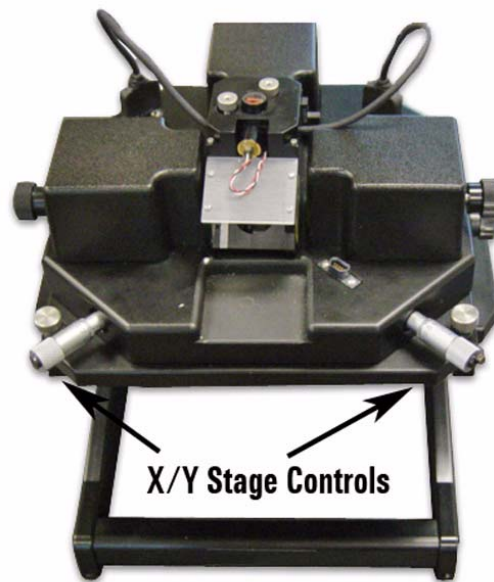

Figure 66 Stage control micrometers
- 11 Locate the area of interest on the sample by manually moving the X/Y stage control micrometers (Figure 66) while watching the video window.